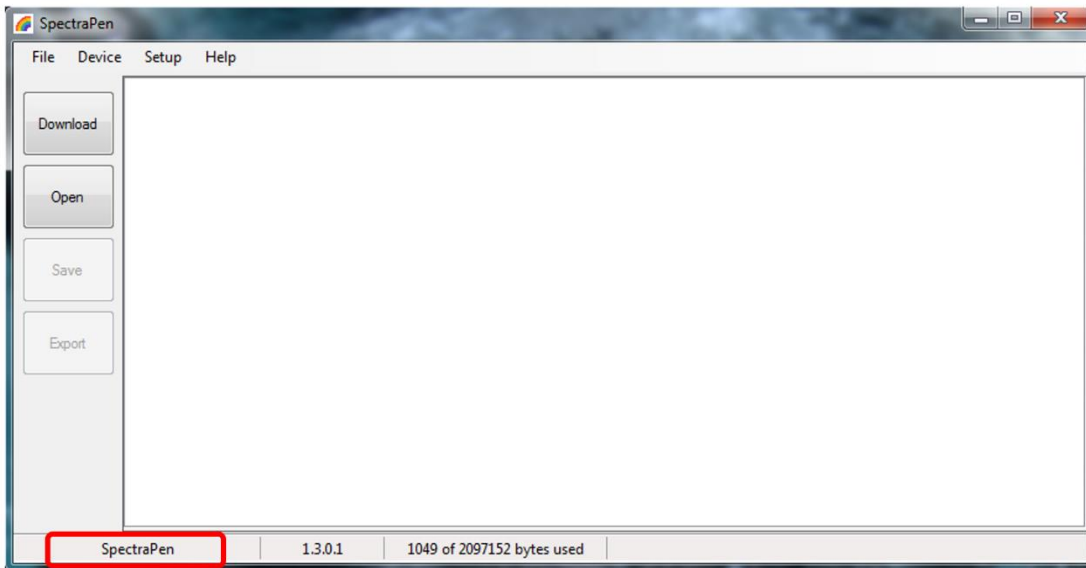
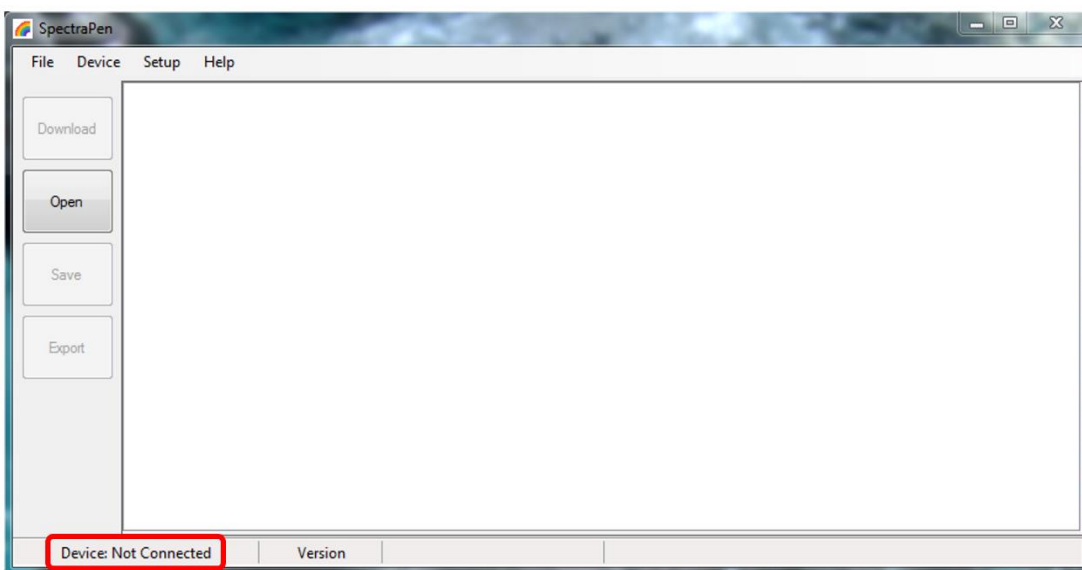

Fig. 18 SpectraPen connected.
Fig. 19 SpectraPen not connected.
6. When the device is properly connected the left bottom corner of the SW window will display "SpectraPen" (Fig. 18). Otherwise notification "Device: Not Connected" is displayed (Fig. 19).